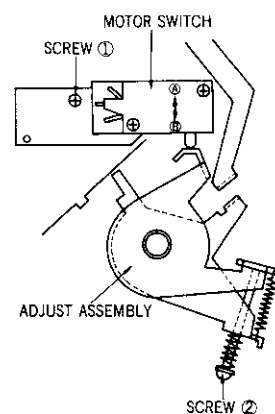

Fig. 12
• Auto return timing (Fig. 12)
• Power switch position (Fig. 12)